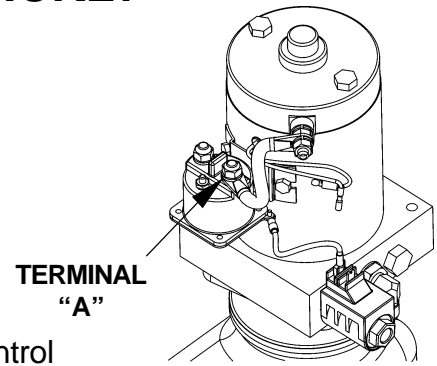

FIG. 9
1. Use voltmeter to verify that power is being supplied to Solenoid Terminal "A". Recharge the battery if voltmeter indicates less than 12.6 Volts (FIG. 9).